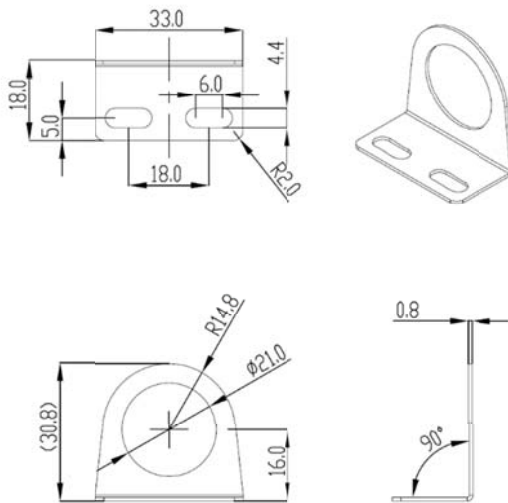

Figure 3 – CNV-SNAP-DD2 Mounting Bracket Dimensions
- Place the controller in desired location and secure it using #4 or M3 sized screws using the mounting holes located on the mounting bracket of the CNV-SNAP-DD2. The dimensions of the CNV-SNAP-DD2 bracket are shown in Figure 3.
(See Figures 3 AND 4)